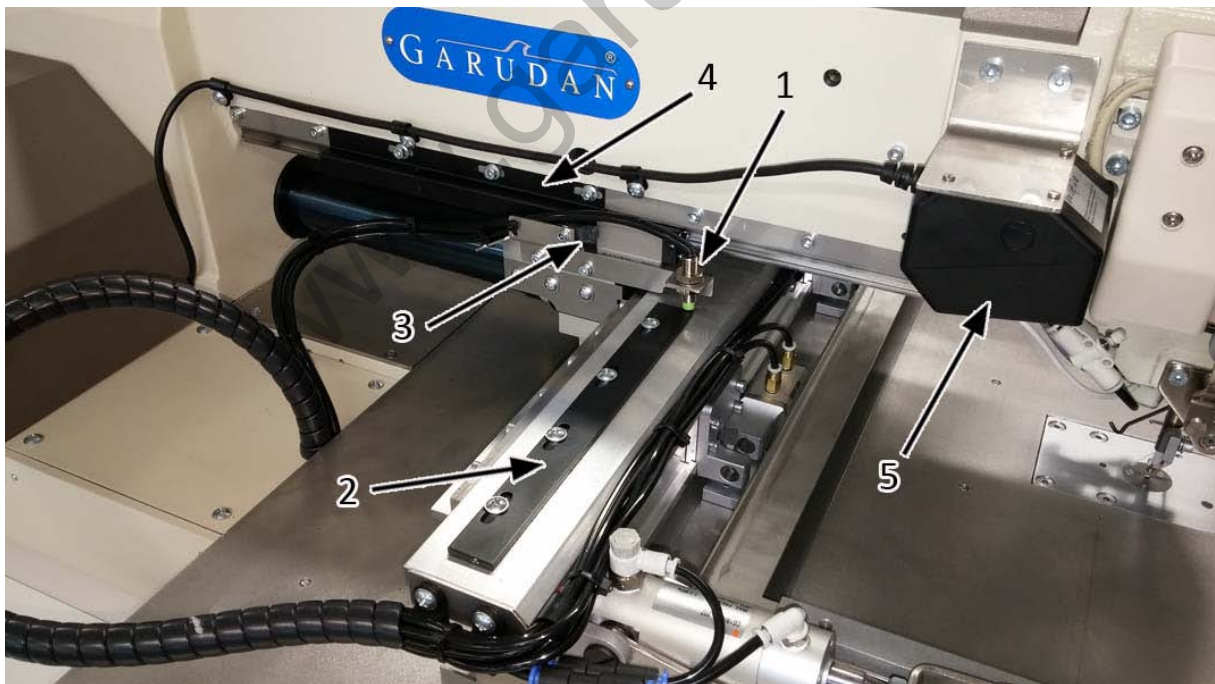
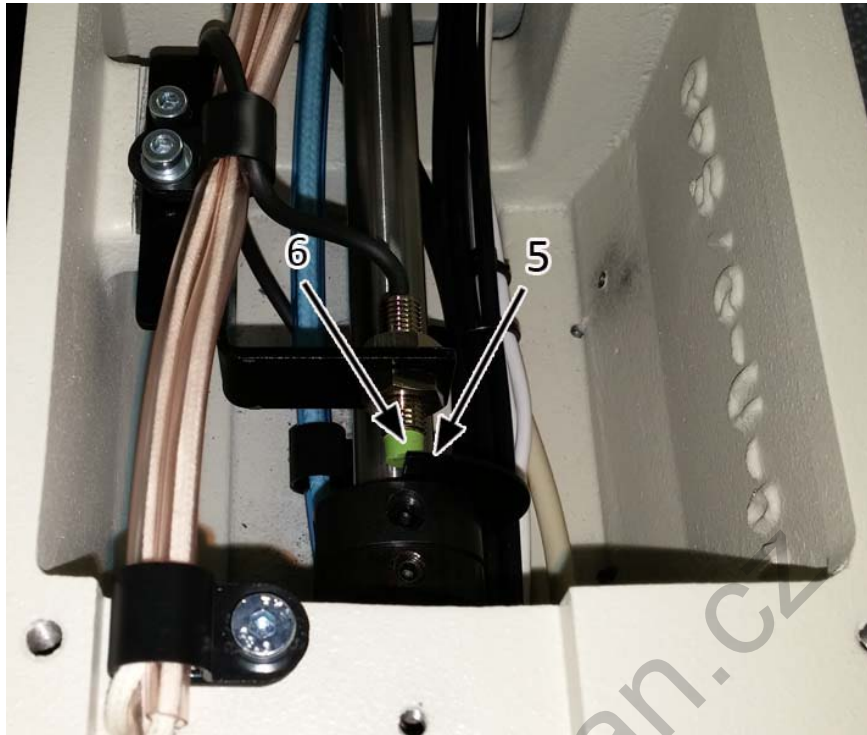

Fig. 32
Fig. 33
- a) Sensors are placed on the machine arm, under left cover of the linear railway (Fig. 32).
- b) X axis movement position can be set by moving sensor plate (2) against the sensor (1).
- c) X axis movement position can be set by moving sensor plate (3) against the sensor (4).
For setting of initial points on X and Y axes move the feeding plate to its central position in both axes. Initial point refers to the actual center position of the feeding plate towards the needle. In this position the edges of sensor plates (2) and (4) are in line with the middle of sensors (1) and (3) (like the edge of sensor plate on Fig. 33).
- d) Sensor of Z axis is located in the machine head and it can be reached after taking off cover of the machine head. Revolving sensor plate (5) is located on the main shaft.
Put the needle in the lower stop position and make the setting of the sensor plate (5) located on the ring as is illustrated on the Fig. 33 – the sensor plate is in the middle of the body of the sensor (6).
Fig. 32 shows position of the barcode reader (5) on the machine.